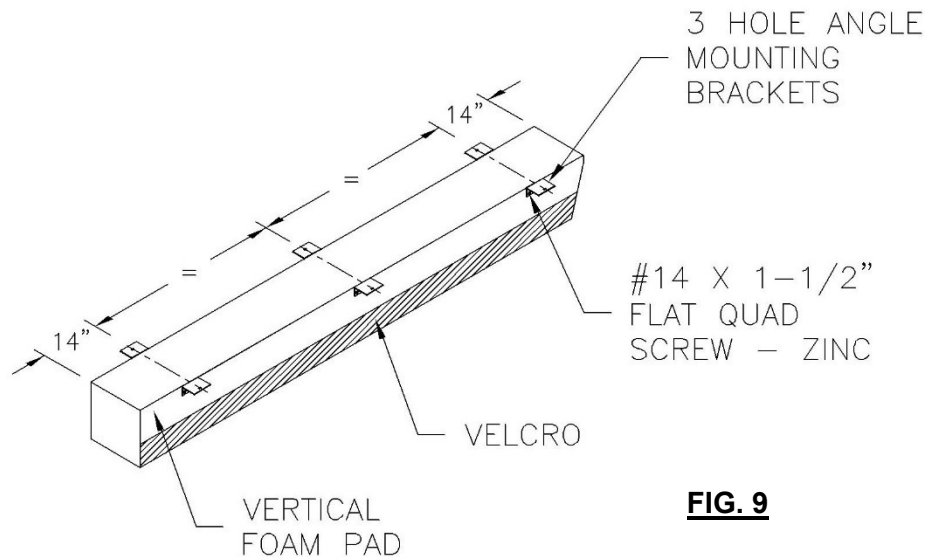

FIG. 9
- i. Fasten galvanized steel angle brackets, using No. 14 wood screws, to the inside and outside perimeter of each vertical pad (Fig. 9).